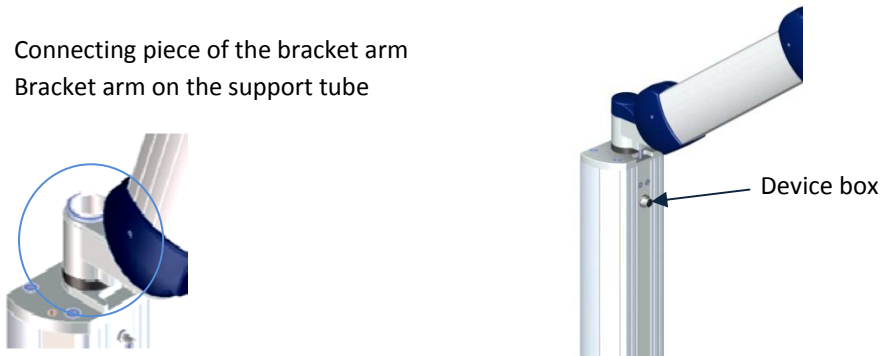

Figure 13: Mounting the bracket arm on the support tube
c) In the next step, the 3 plug connector plugs protruding from the support tube of the mobile frame are passed through the connecting tube of the bracket arm and the connecting piece of the bracket arm is set on the support tube. It is recommended that there are two people available to carry out this procedure. Finally, the safety ring is fixed to the support tube again using the snap ring pliers (figure 13).
f) In the final step, the connected cable conduits are pushed back into the support tube and the cover is replaced while the bracket arm is extended, using the size 2.5 Allen key (figure 13).
There is a plug on the end of the remote control unit's spiral cable. This is connected to the device box located under the bracket arm (figure 13). Pay attention to the correct coding. This concludes the assembly of the LED lamp with mobile frame.